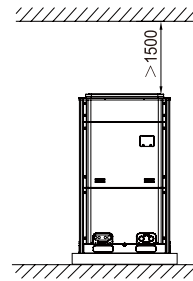

Figure 7
(2). In principle, if a crown wall (obstacles for keeping out the wind) exists over the machine, a distance of at least 3000 mm should be left between the top of the machine and the crown wall. If the front, rear, left and right sides of the machine are open spaces, the distance between the top of the machine and the crown wall should be at least 1500 mm, as shown in Figure 7. If the requirement for the minimum 1500 mm cannot be met, or the spaces around the machine are not open, an air return pipe